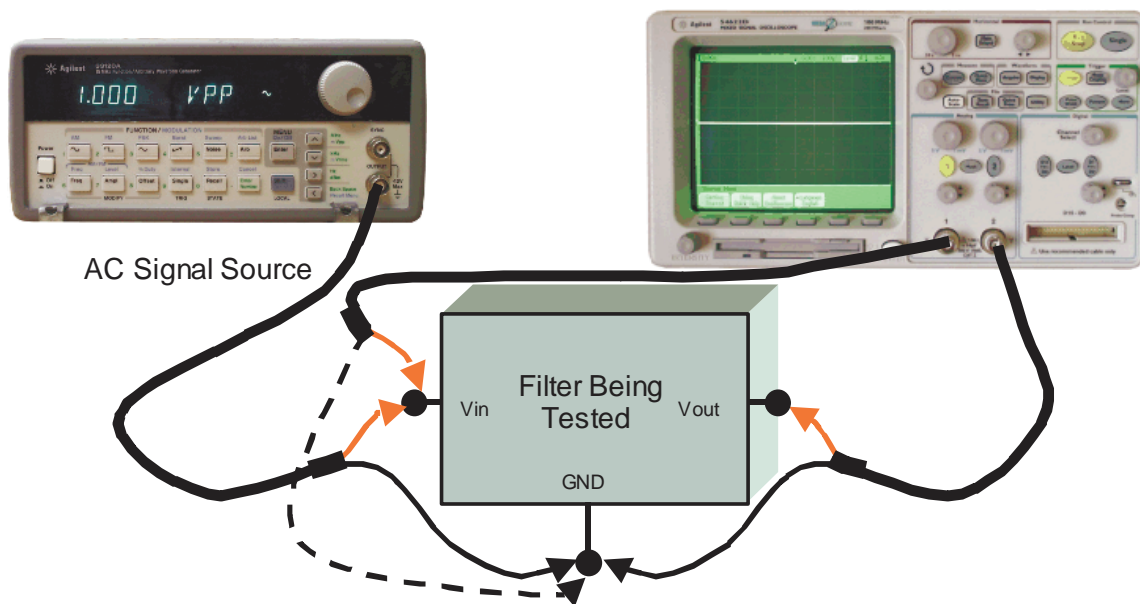

Figure 3: Setup for Measuring Center Frequency and Bandwidth
The setup for measuring the center frequency and bandwidth of a resonant filter is shown below in Figure 3. It should be familiar to you, as it is exactly the same as the configuration used in the previous experiment. You will be interpreting the readings a little differently, though.
1. Connect up the series resonant filter of Figure 1 using the test setup of Figure 3.
6. Connect up the parallel resonant filter of Figure 1 using the test setup of Figure 3.